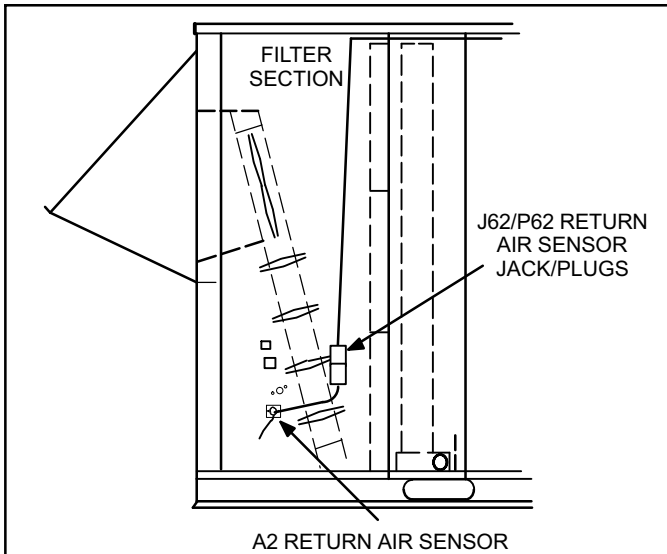

Figure 7. A2 Return Air Sensor
shown in figure 7) with two #10-16 x 5/8 SMS screws. Get harness J62 from bag assembly; connect one end to A2 sensor and fit the other end through the conduit on the indoor coil and then through the compressor wall conduit. Connect J62 female terminals to the J62 male terminals from sub-assembly.
2. Insert return air sensor probe into hole (location shown in figure 7). Secure with screws provided.